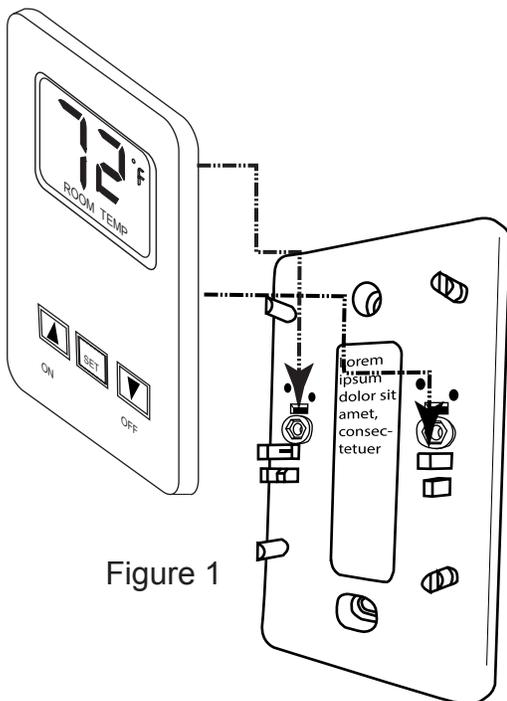

Figure 1
1. Remove face from backing plate this is done by sliding the face up about 1/2" then pull the face off the base plate. As shown in Figure 1
2. Locate the (2) holders for the 3V button cell batteries.
1. Remove face from backing plate as shown in Figure 1 then locate the TS/R-2A to where the (2) thermostat wires from the appliance can be pulled through the hole on the backing plate and connect them to the (2) terminal screws.
2. After locating the (2) two mounting holes and mark the holes on the wall.
3. Use the (2) two dry wall anchors and screws (that are supplied) to mount the base plate to the wall as shown.
6. Reinstall the face to the backing plate this is done by sliding the face in and down about 1/2" then check that the (2) male terminal connectors on the face are engaged in the female terminal connectors on the backing plate. As shown in Figure 1.